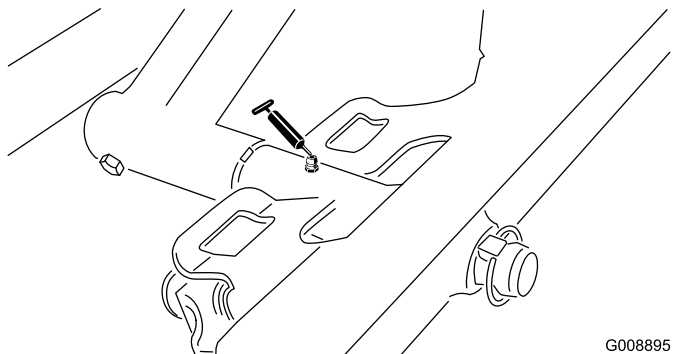

Figure 28
- Front cutting-unit pivot (Figure 28)